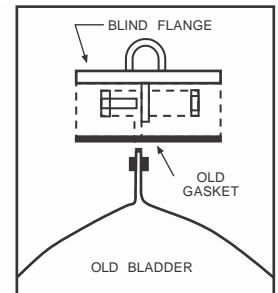

Figure 4
10. Unbolt blind flange (Fig. 4) from old bladder and remove old gasket.